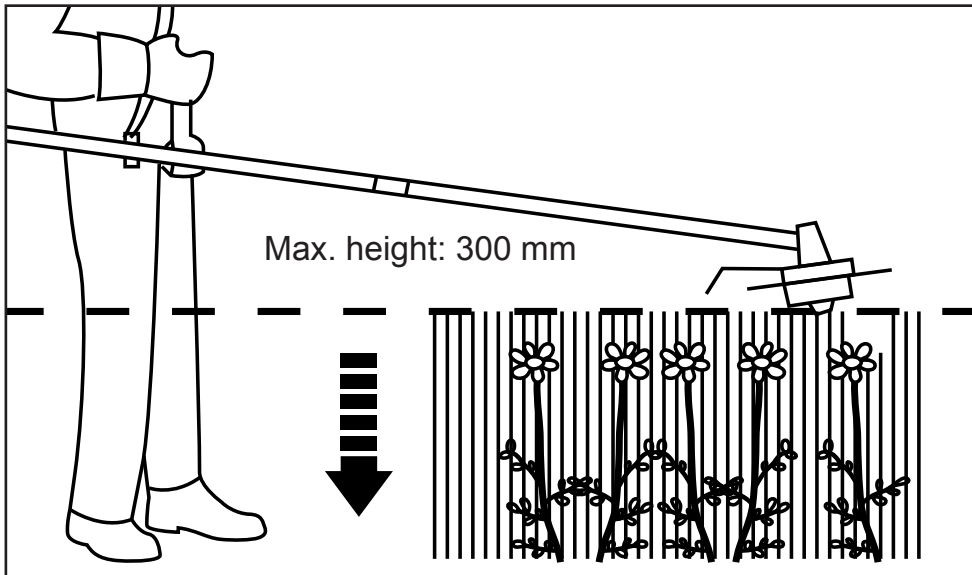

Fig. 15
- Do not lift the cutting attachment higher than your knee. The higher you hold the cutting attachment, the higher the risk of objects being thrown (Fig. 15).